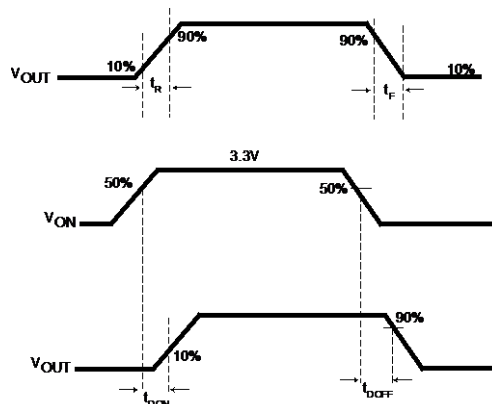

Figure 24. Timing Diagram
- $t_{DON}/t_{DOFF}/t_R/t_F$  are defined in Figure 24.